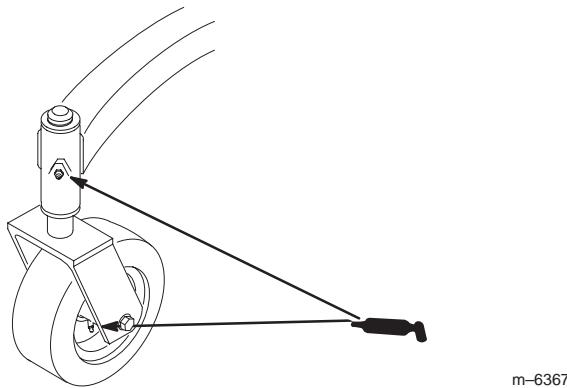

Figure 38
1. Lubricate the front wheel bearings and front spindles until grease begins to ooze out of the bearings (Fig. 38).